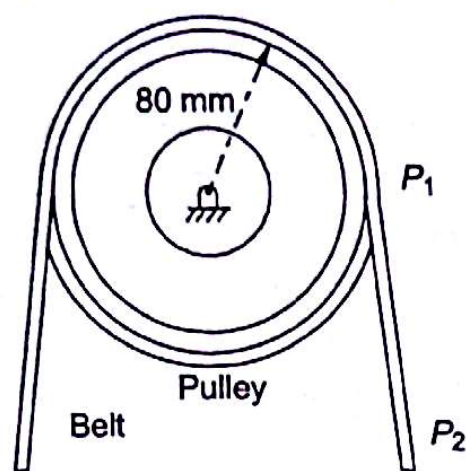

Fig. 11.10
- 11.3 Belt speed over a pulley changes uniformly from 4 m/s to 6 m/s over an interval of 2 seconds. Calculate the magnitude of accelerations at points P_1 and P_2 half way through the time interval (Fig. 11.10).